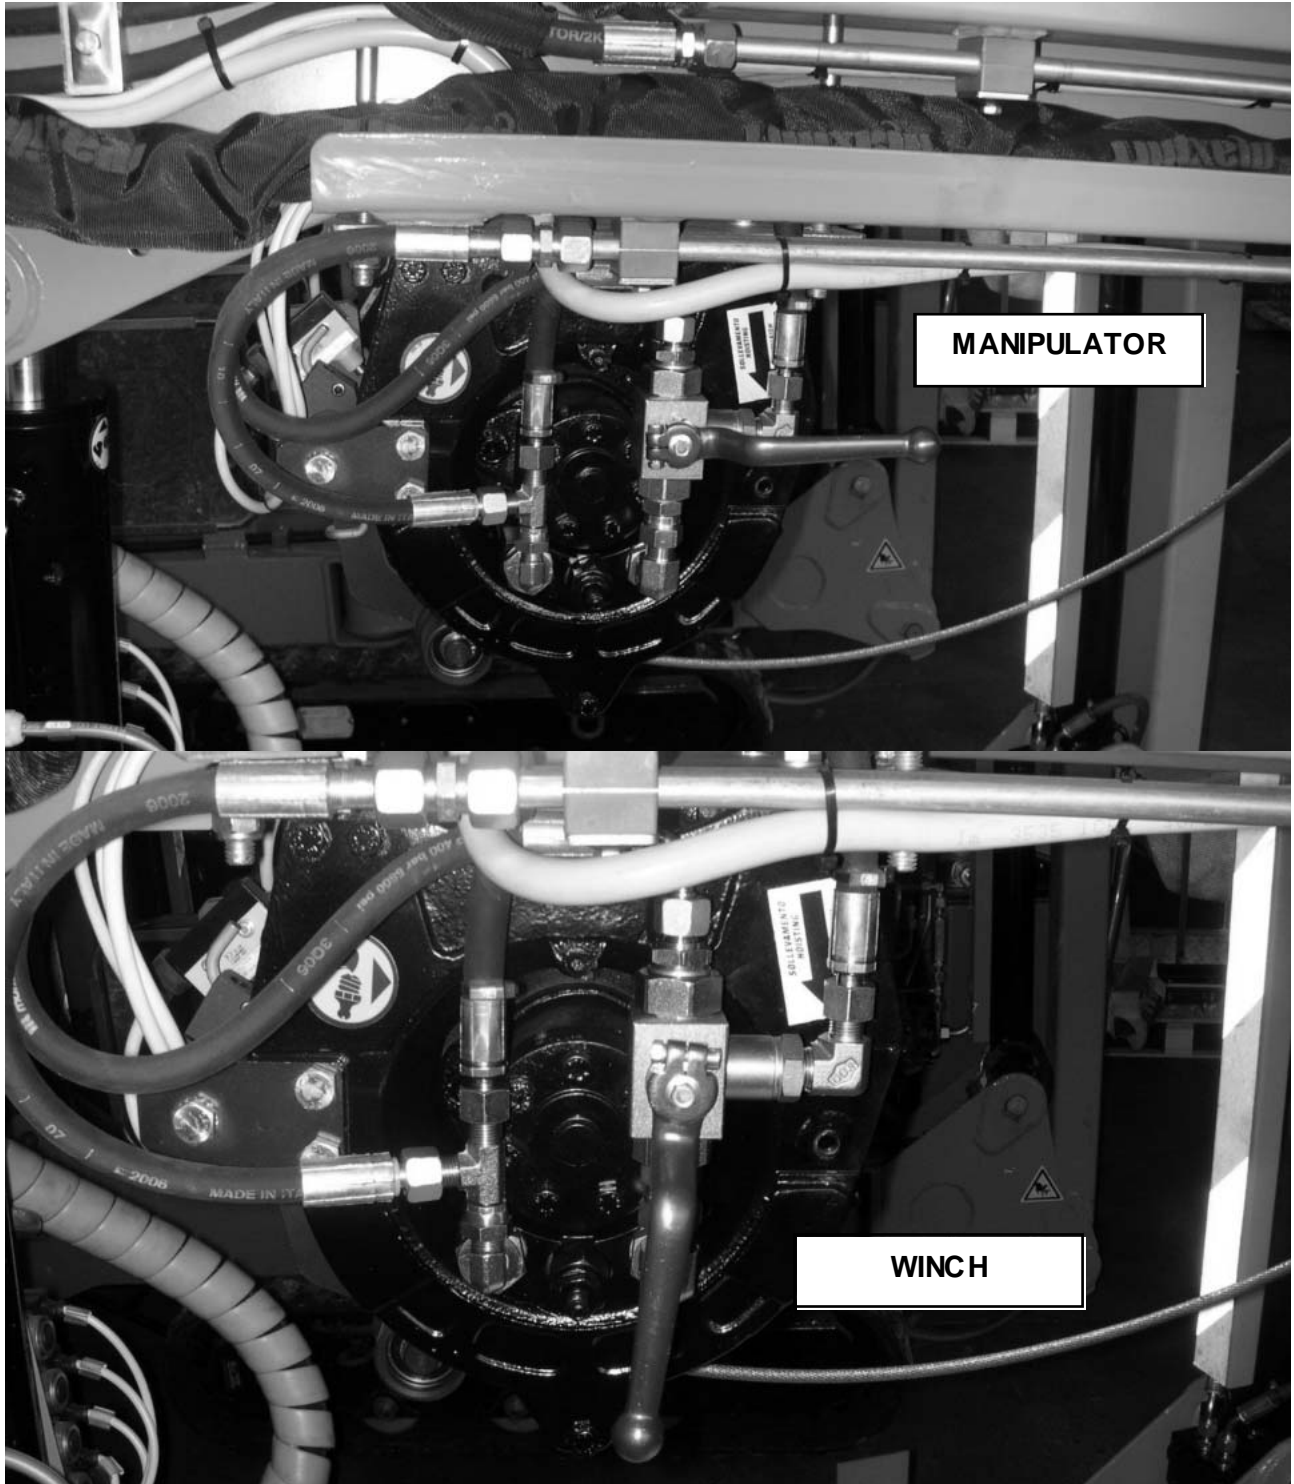

Fig. 2
- 3- Turn the faucet lever to the “manipulator” position (fig. 2)